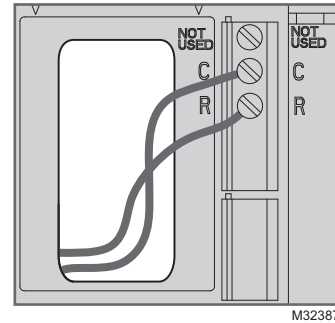

Fig. 206. Inserting wires in thermostat terminal block.
2. Loosen the screws for the appropriate terminals. Insert wires in the terminal block under the loosened screw. See Fig. 206.